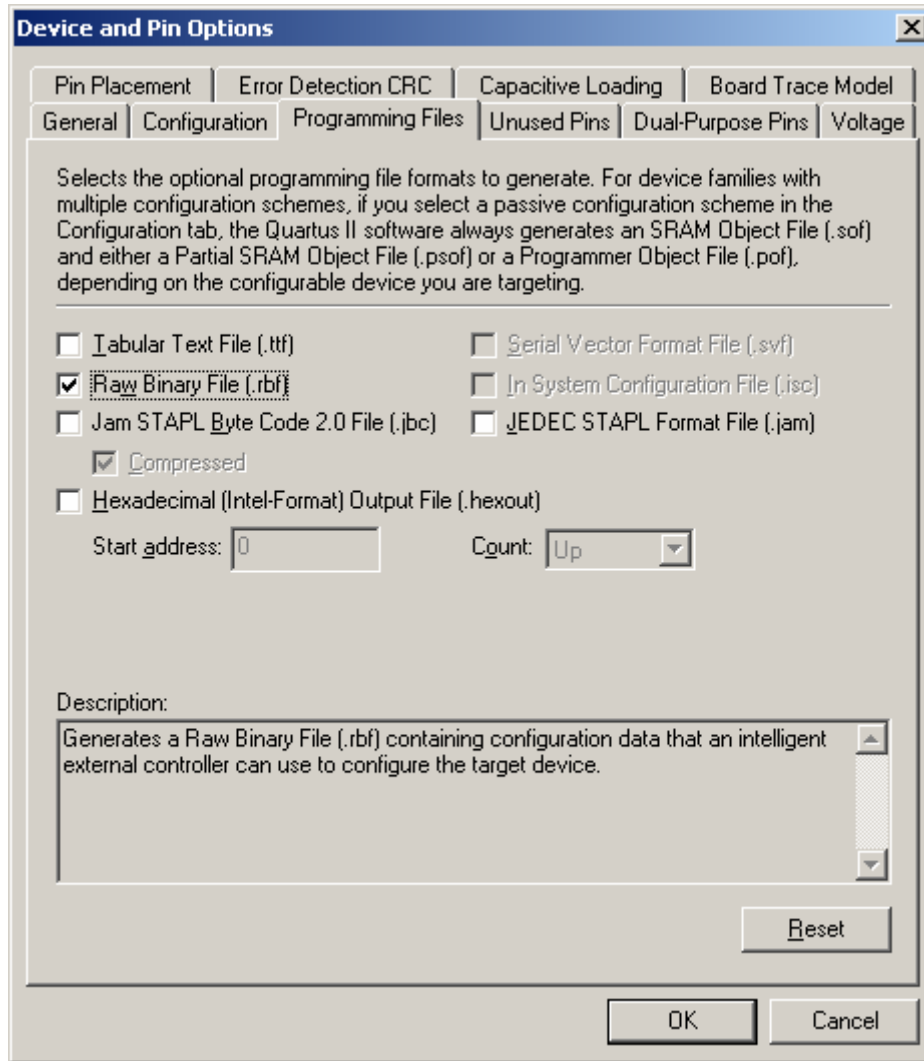

Figure 6-2 Programming Files tab
5. Click [Programming Files] tab and check [Raw Binary File (.rbf)] and then click [OK] button (Figure 6-2).